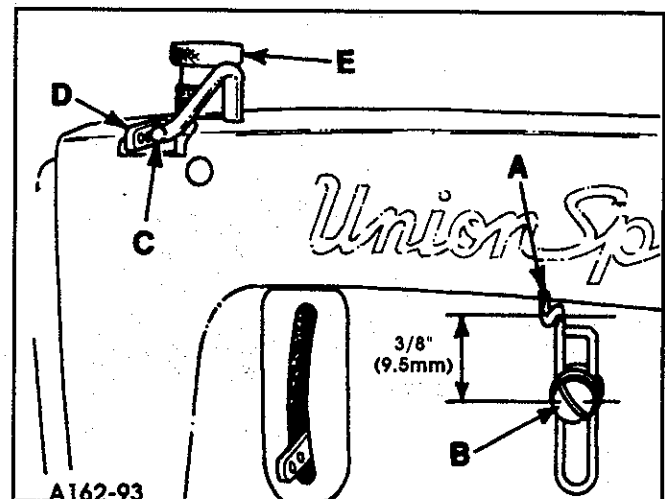

FIG. 24
Set the needle thread frame eyelet (A, Fig. 24)  $3/8$ " (9.5mm) above the center of mounting screw (B). The top of take-up wire (C) should be even with the top holes in the needle thread eyelet (D) with the hole at bottom of stroke. For less loop lower this setting, for more loop increase setting.
Regulate the presser spring regulating screw (E, Fig. 24) so that it exerts only enough pressure on the presser foot to feed the work uniformly when a slight tension is placed on the fabric. Turning it clockwise increases the pressure, counterclockwise acts the reverse.